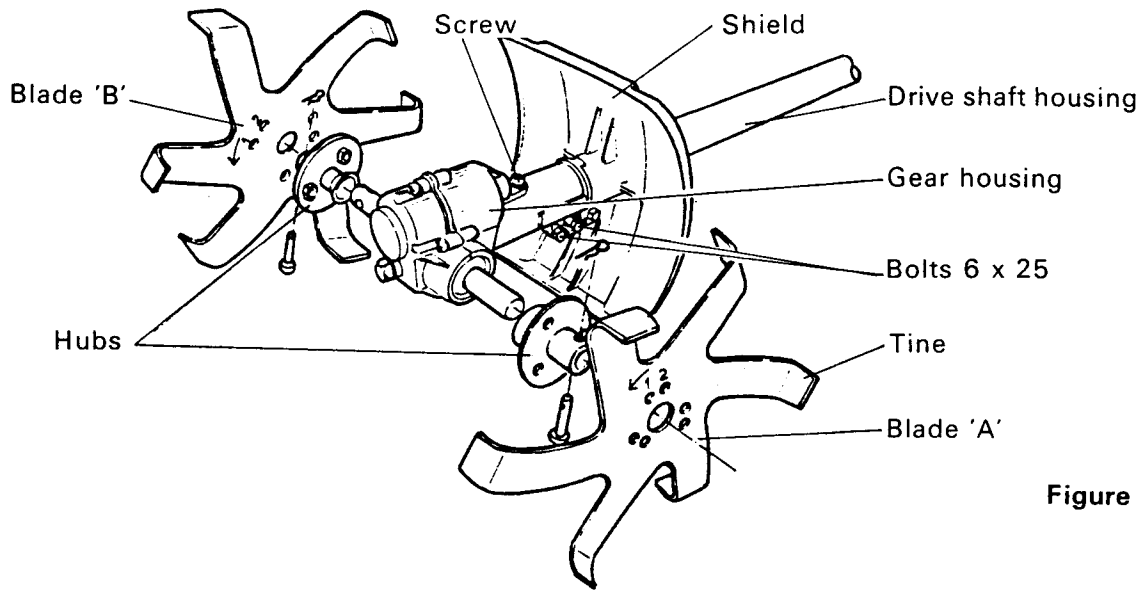

Figure 2
- Remove three bolts securing the blade 'A' to hub (the side of which marked numbers 1 and 2 can be seen). Refer to figure 2.